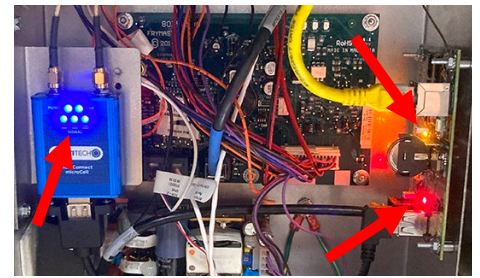

Figure 43
40. Ensure LED's illuminate on the modem and KCCM board (see Figure 43). The LINK LED should blink after a few minutes.